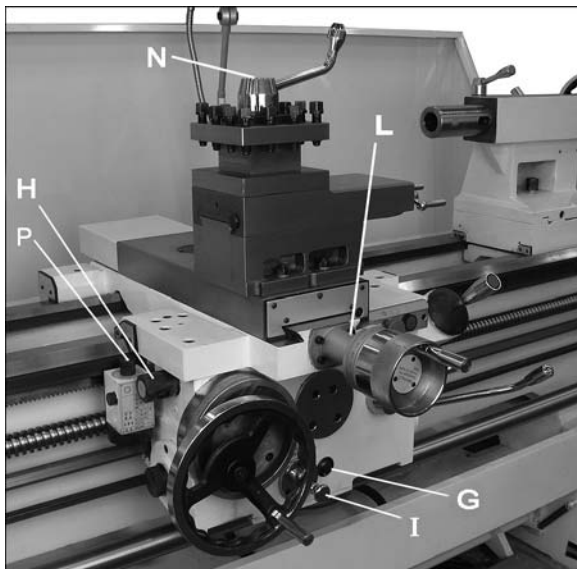
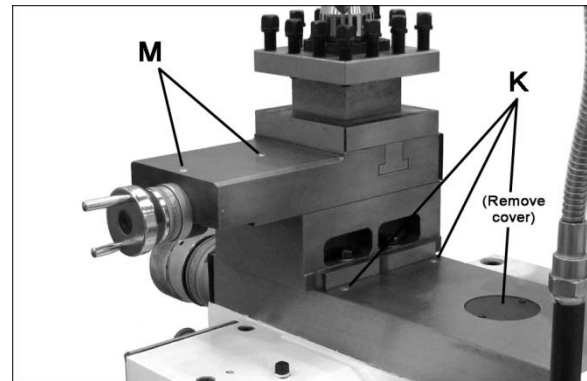

Figure 12 – Lubrication points
Figure 13 – Lubrication points
7. **Apron** – Oil must be between indicator marks in the oil sight glass (G, Figure 12). Top off with SAE 20W oil. Unscrew oil plug (H, Figure 12) to fill. To drain, remove drain plug on the underside of apron. Drain oil completely and refill after the first three months of operation. Then, change oil in the apron annually.
**One-shot Lube System:** Pull knob (I, Figure 12) and hold for several seconds to allow oil to fill the pump from the apron reservoir. Then release the knob which will push the oil through various oil lines to lubricate the ways below the saddle. Perform this several times daily.
8. **Threading Dial** – Frequently lubricate via one ball oiler (P, Figure 12) on top of the dial with SAE 20W oil.
9. **Cross Slide** – Daily lubricate one ball oiler on the handwheel housing (L, Figure 12) and three ball oilers on the platform (K, Figure 13), with SAE 20W oil.
11. **Compound Rest** – Daily lubricate two ball oilers (M, Figure 13) on top of compound rest with SAE 20W oil.
12. **Tool Post** – Regularly clean dirt and coolant from around the tool post to maintain its re-positioning accuracy. Daily lubricate one ball oiler on top the clamping hub (N, Figure 12) with SAE 20W oil.